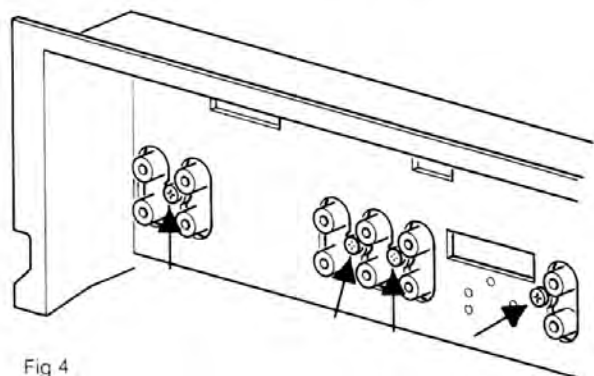

Fig 4
- 6) Loosen 5x Torx 10 screws (see figure 4). Remove equalizer bridges.